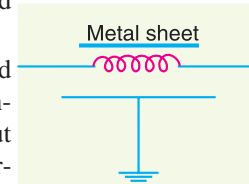

Fig. 24.16
- (iii) Fig. 24.16 shows the another type of surge absorber. It is called Ferranti surge absorber. It consists of an air cored inductor connected in series with the line. The inductor is surrounded by but insulated from an earthed metallic sheet called dissipator. This arrangement is equivalent to a transformer with short-circuited secondary. The inductor forms the primary whereas the dissipator forms the short-circuited secondary. The energy of the surge is used up in the form of heat generated in the dissipator due to transformer action. This type of surge absorber is mainly used for the protection of transformers.